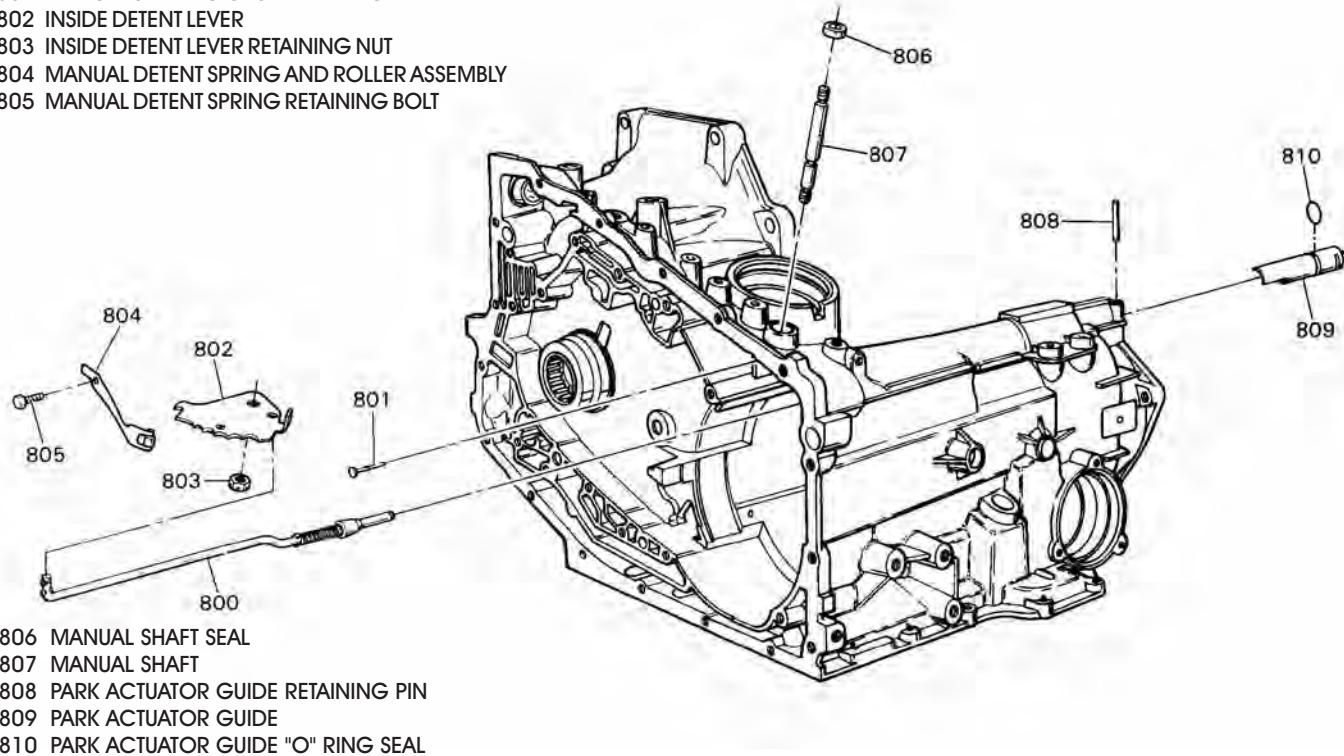

Figure 75
59. Remove the case park linkage components using Figure 75 as a guide.
8. Install acutator guide into the transaxle case, as shown in Figure 75, align slot for retaining pin.
9. Install actuator guide retaining pin, as shown in Figure 75.
10. Install manual shaft into case and carefully through the manual shaft seal, align the slot for retaining pin, and install the retaining pin, as shown in Figure 75.
11. Install park lock actuator rod onto the inside detent lever (See Figure 75).
12. Install the assembly into the acuator guide and inside detent lever over the manual shaft, as shown in Figure 75.